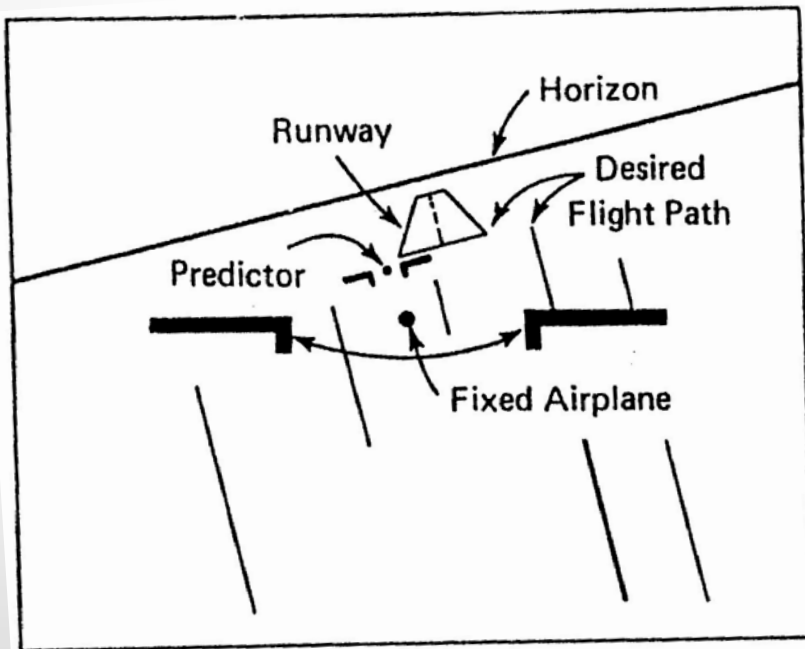

FIGURE 10-18.
2. Figure 10-18: present & predicted path of aircraft (8 s) during landing